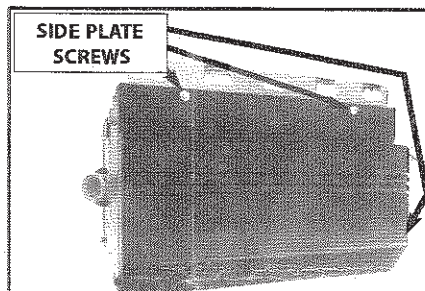

Fig. 1
3. **ON SIDE PLATE next to the antenna wire, LOOSEN** the 2 upper side panel screws and two lower screws on the front and back plates. Remove the side plate. **FIG 1**